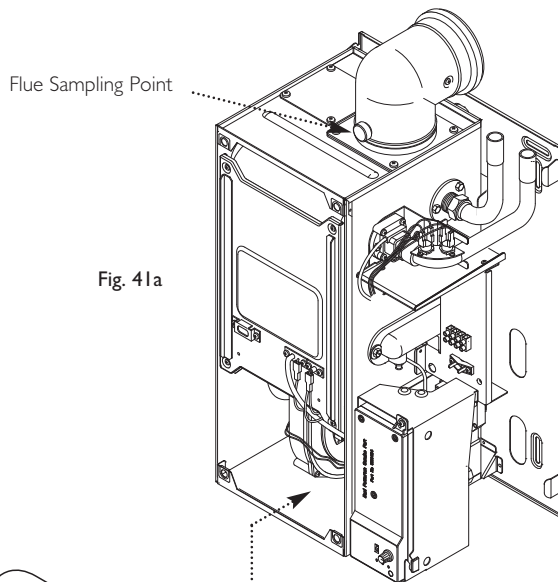

Fig. 41a
11. Check CO/CO2 ratio and CO2 level at flue sampling point (Fig.41a) is as quoted in Section 4.0 'Technical Data'.